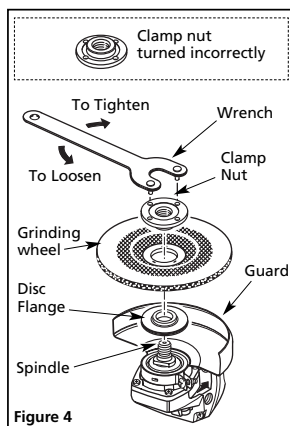

Figure 4
(See Figures 4, and 5.)
- If the working disc is a 4 1/2" [115mm] grinding wheel, these typically have a thickness of .16-.25" [4-6mm] and thusly should be secured with the raised portion of the clamp nut screwed into the grinding disc bore, or in essence, the raised portion of the clamp nut faces the main body of the tool itself. (See Figure 4)